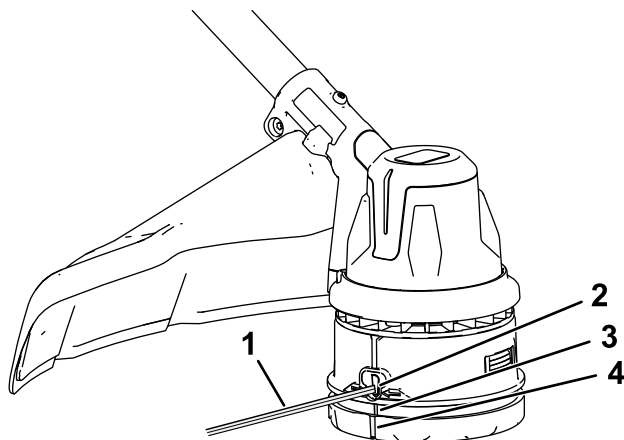

Figure 20
4. Press and turn the bump head in the direction shown by the arrows (clockwise) on the bottom of the bump head until the marks on the side of the bump head align with the marks beneath the eyelets (Figure 20).